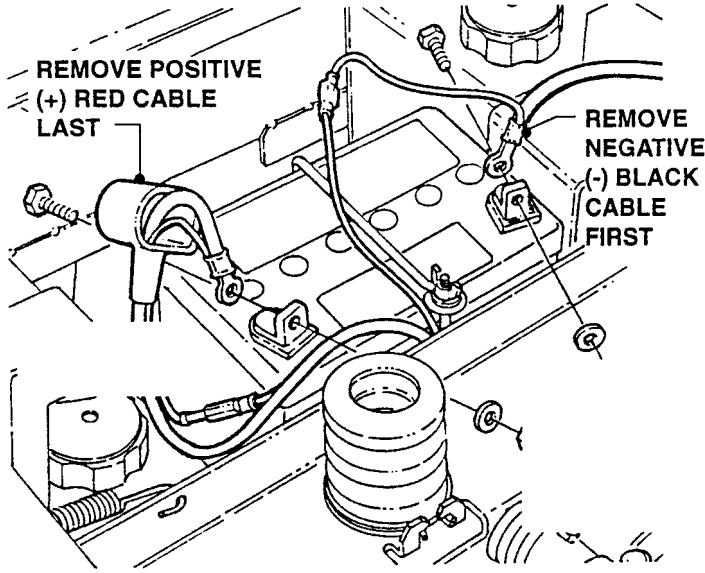

FIGURE 4.2
A. Disconnect the battery. Remove NEGATIVE (-) BLACK Cable first and POSITIVE (+) RED Cable last. Secure cables away from the battery. See Figure 4.2.